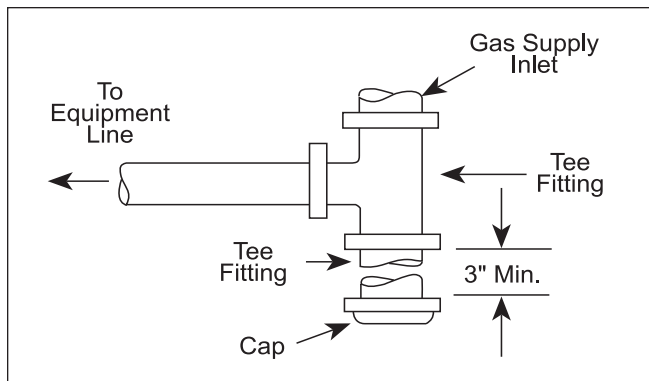

Figure 8. Sediment Trap Installation.
- A sediment trap (drip leg) must be provided ahead of the gas controls (see Figure 8). A manual gas shutoff valve must also be provided for service convenience and safety. Check the local codes.